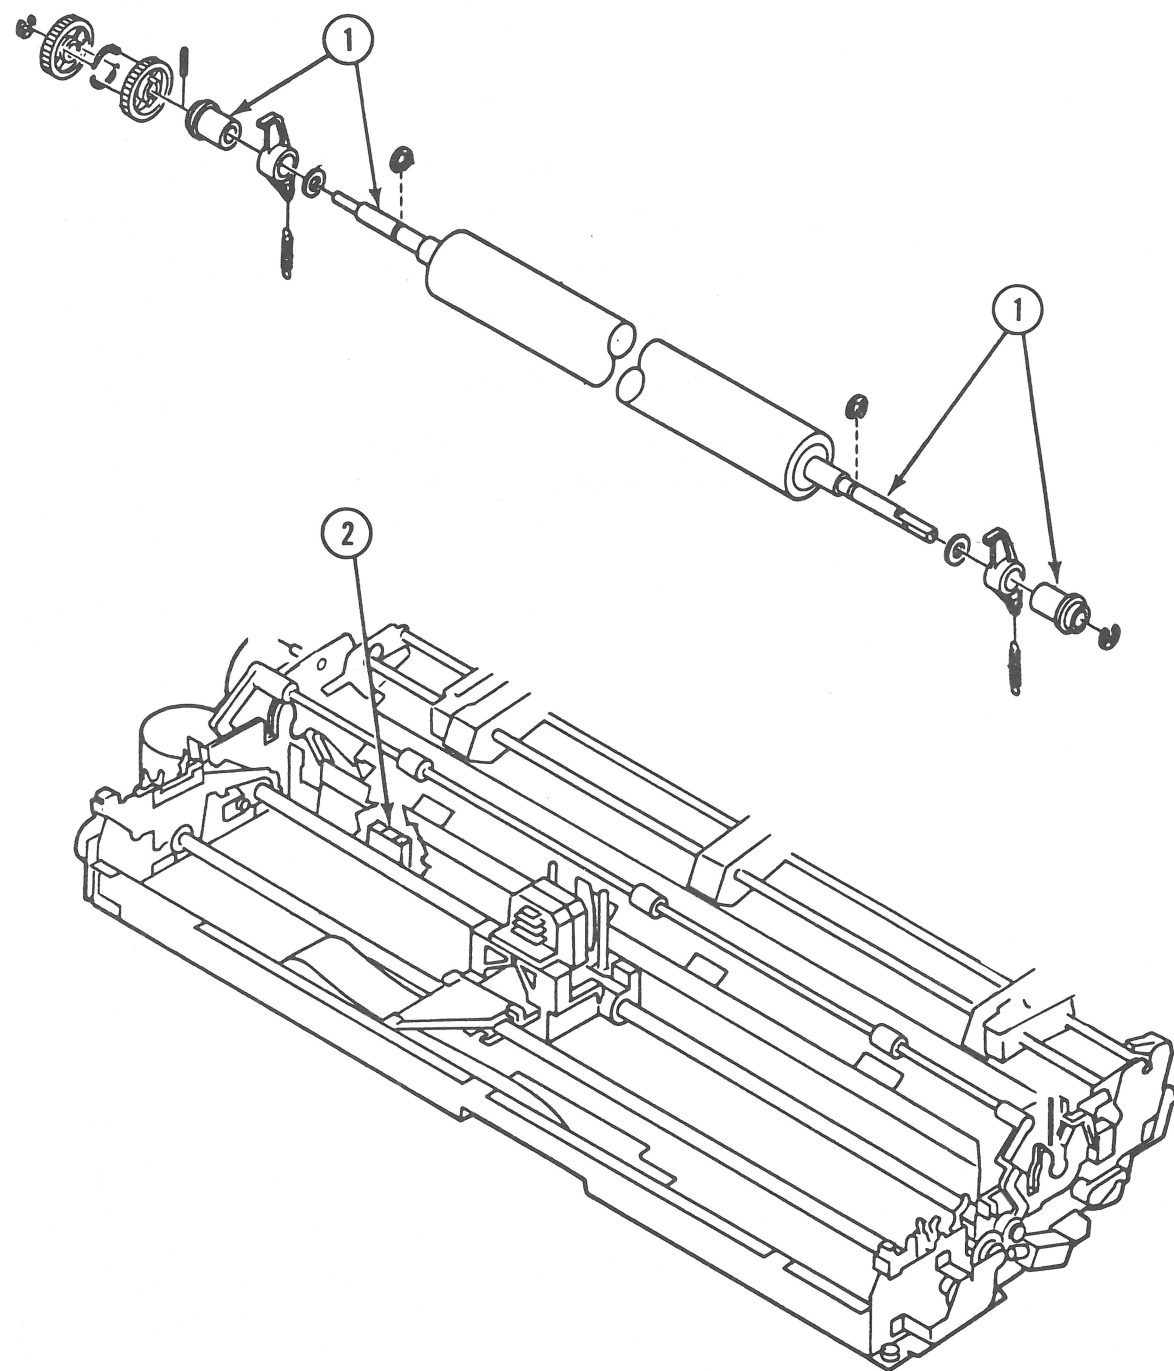

FIGURE 7
2. Clean the parts identified (Figure 7, #1 and #2) by wiping off any old oil and dirt with a lint-free cloth.
3. Lubricate each platen lubrication point identified (Figure 7, #1) with one drop of Floil G-488. **Do not** lubricate the paper-out sensor (Figure 7, #2).